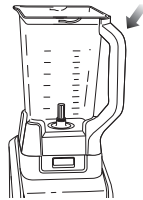

Fig. 3a
- 5 The pitcher can be placed on the motor base two ways; the handle can be on the front right corner or the front left corner. (Fig. 3a, Fig. 3b)